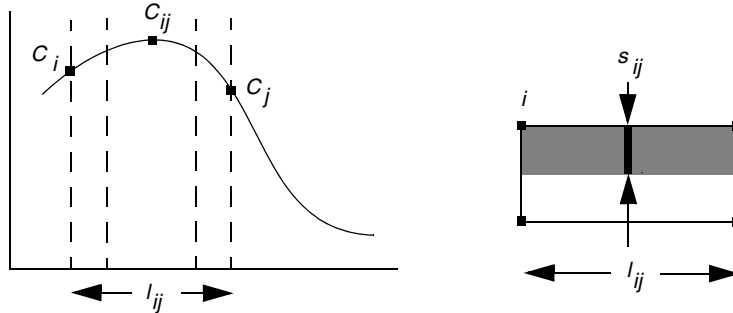

Figure 31 (Left) One-dimensional and (right) 2D representation of dose loss criteria
- s_{ij} is the box size perpendicular to the edge between nodes i and j (see Figure 31).
The function in Figure 31 (left) is taken from the previous mesh. The box with four points in Figure 31 (right) represents one cell of the mesh refinement tree. The shaded area is the part of the 2D field under consideration. The dose in the shaded area is computed in two ways: